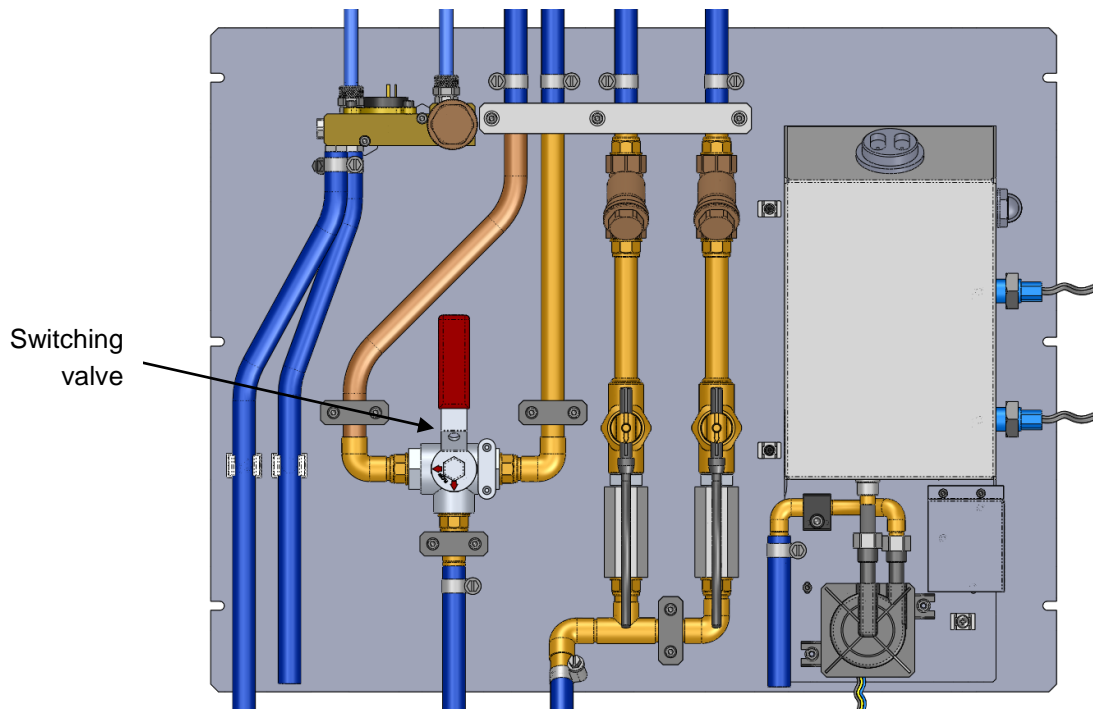

Figure 14 Water switching valve (Gemini only) in Mo position
16. Turn the manual valve (see **Figure 14 Water switching valve**) on the water system by 90 degrees to the position for the selected wavelength. **NOTE: the selected water valve position and the selected HV cable in the generator must be for the same wavelength.**